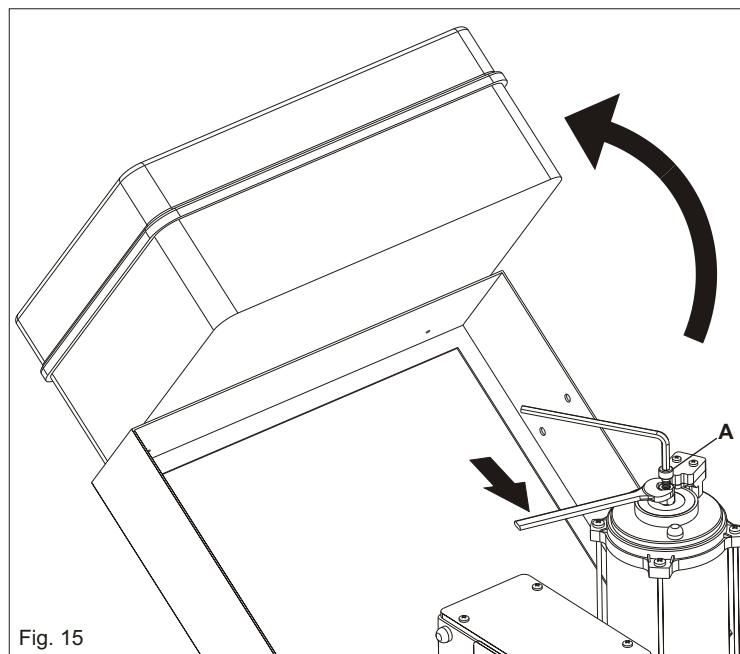

Fig. 15
- Turn the stop of the electronic control unit and unscrew the fixing nut keeping locked screw "A" as in Fig. 15 to act on the clutch with an hexagonal key.